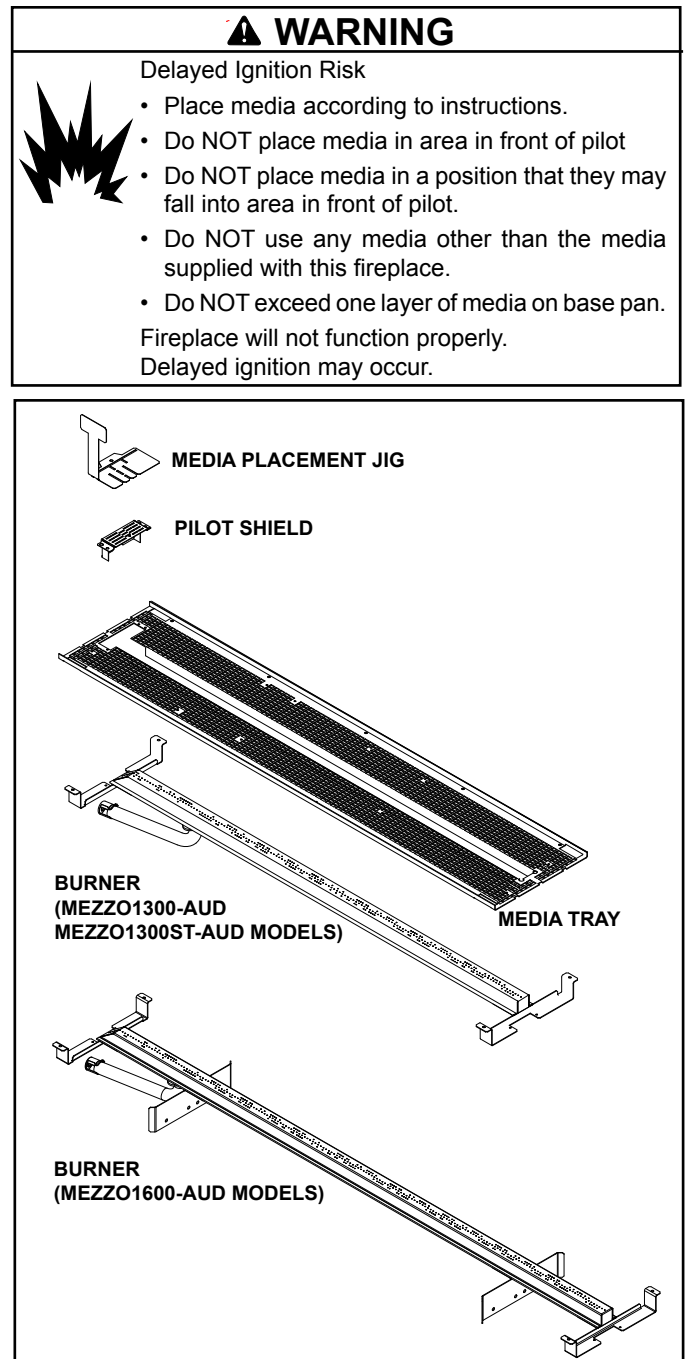

Figure 11.12 Media Tray Components
2. The included media placement jig, shown in Figure 11.12, MUST be used any time media are placed on the burner to ensure that none end up in the burner lighting area. Verify that the media placement jig is correctly installed in place in the appliance. See Figure 11.13.